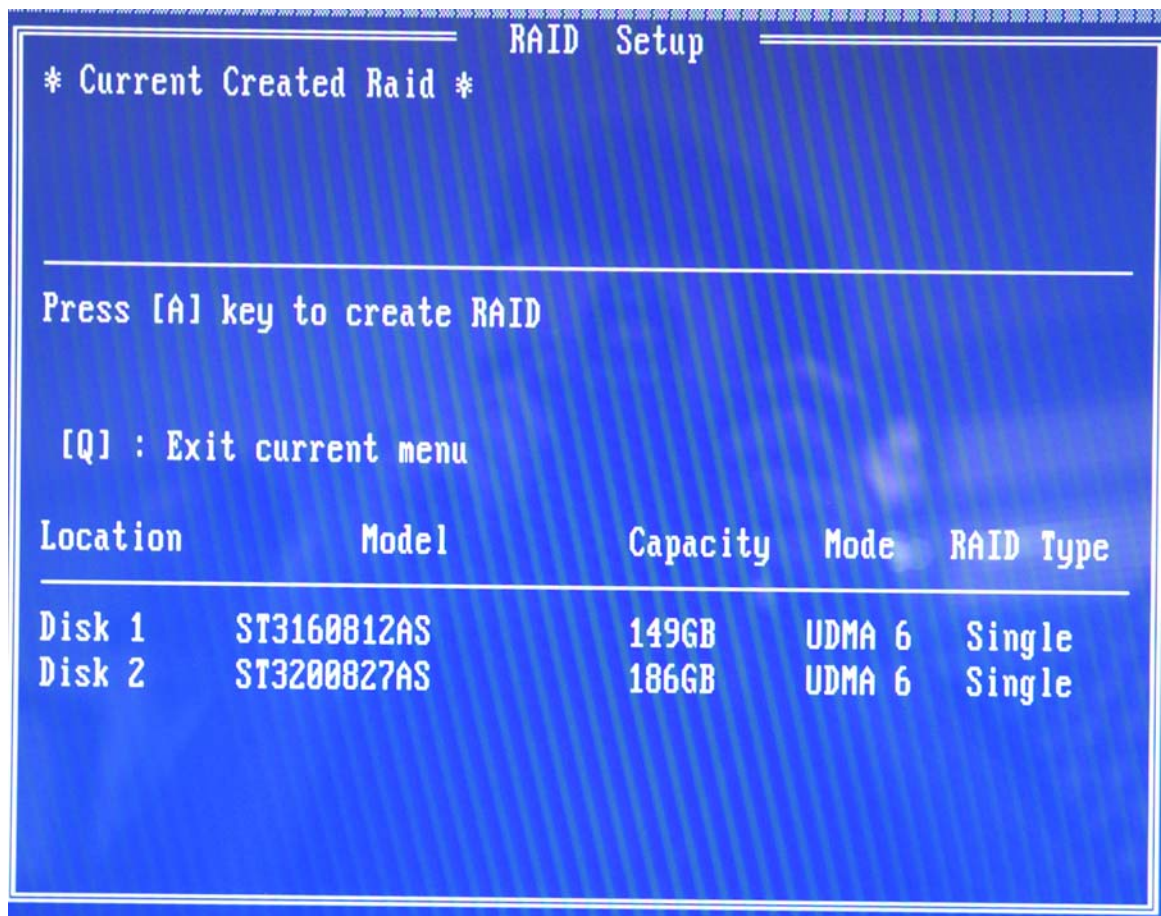

Figure E-5: Create RAID
- Step 3:** To setup the RAID, press "R." The RAID setup screen appears (see **Figure E-5**).
- Step 4:** Click "A" to setup the RAID(see **Figure E-5**).